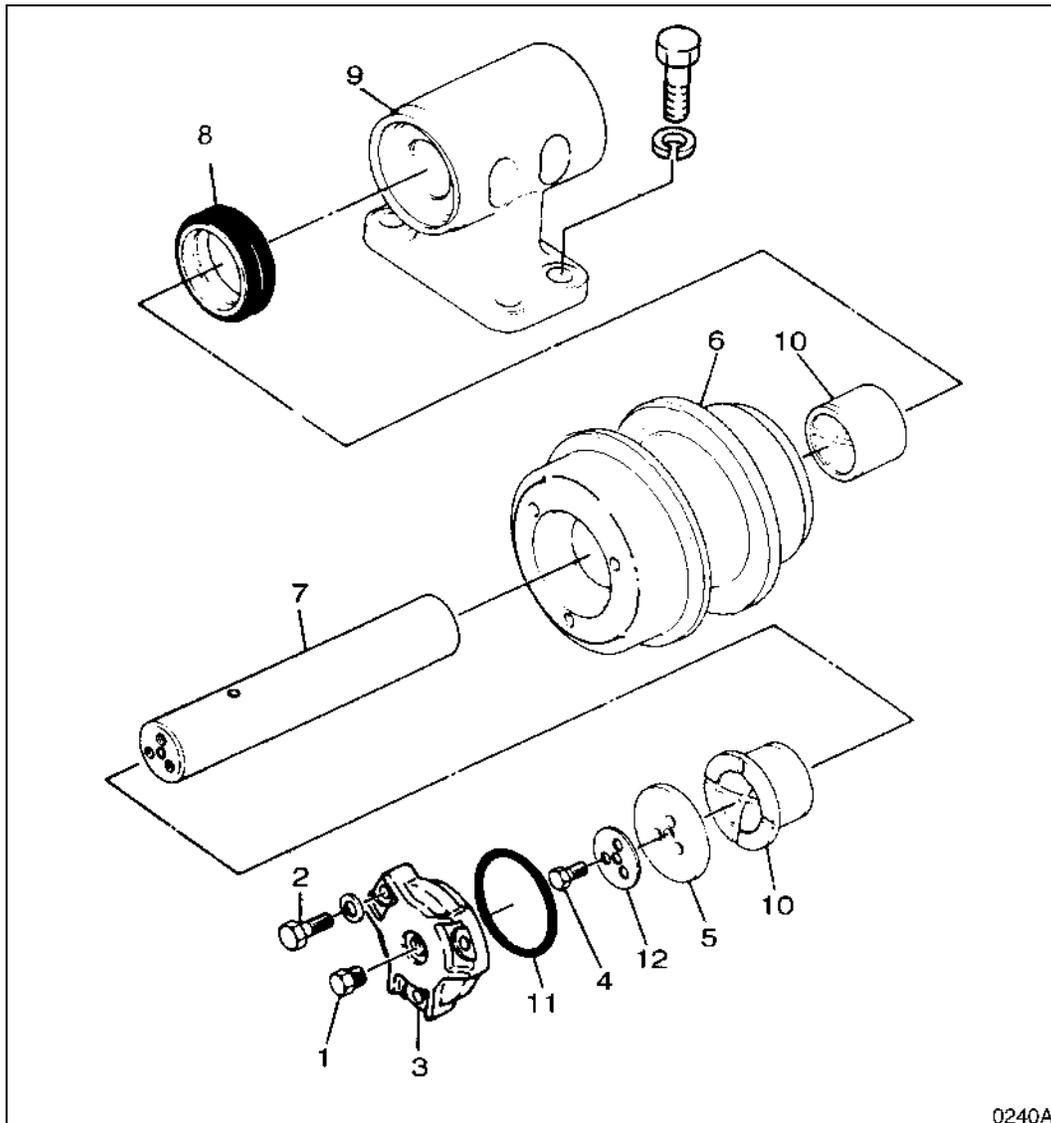

Figure 39
4. Attach group seal (8, Figure 39) to the roller (6, Figure 48) and cover (3).